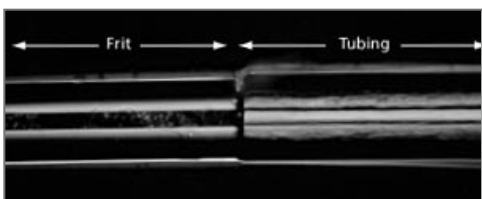

FIGURE 7 Close-up of a good connection
- Inspection of a good connection in a FEP sleeve, now a union, under a light microscope is shown in Figure 7. This union is a true zero dead volume connection and will offer good chromatographic performance. A properly prepared FEP union will typically hold pressure to 200 psi or more.